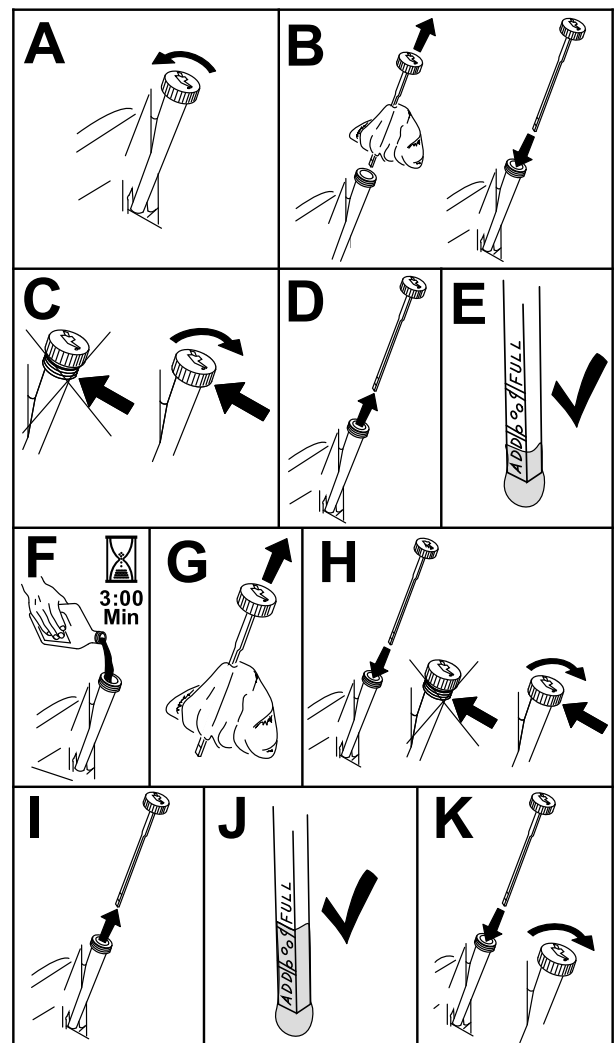

Figure 32
3. To keep dirt, grass clippings, etc., out of the engine, clean the area around the oil-fill cap and dipstick before removing it (Figure 32).